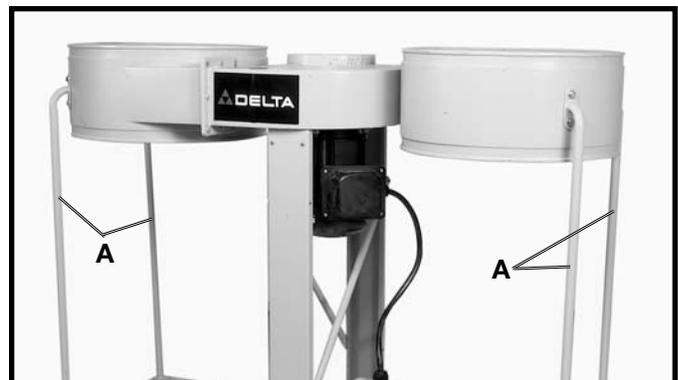

Fig. 18
3. Fig. 18, illustrates the four drum support posts (A) assembled to the base and drums.